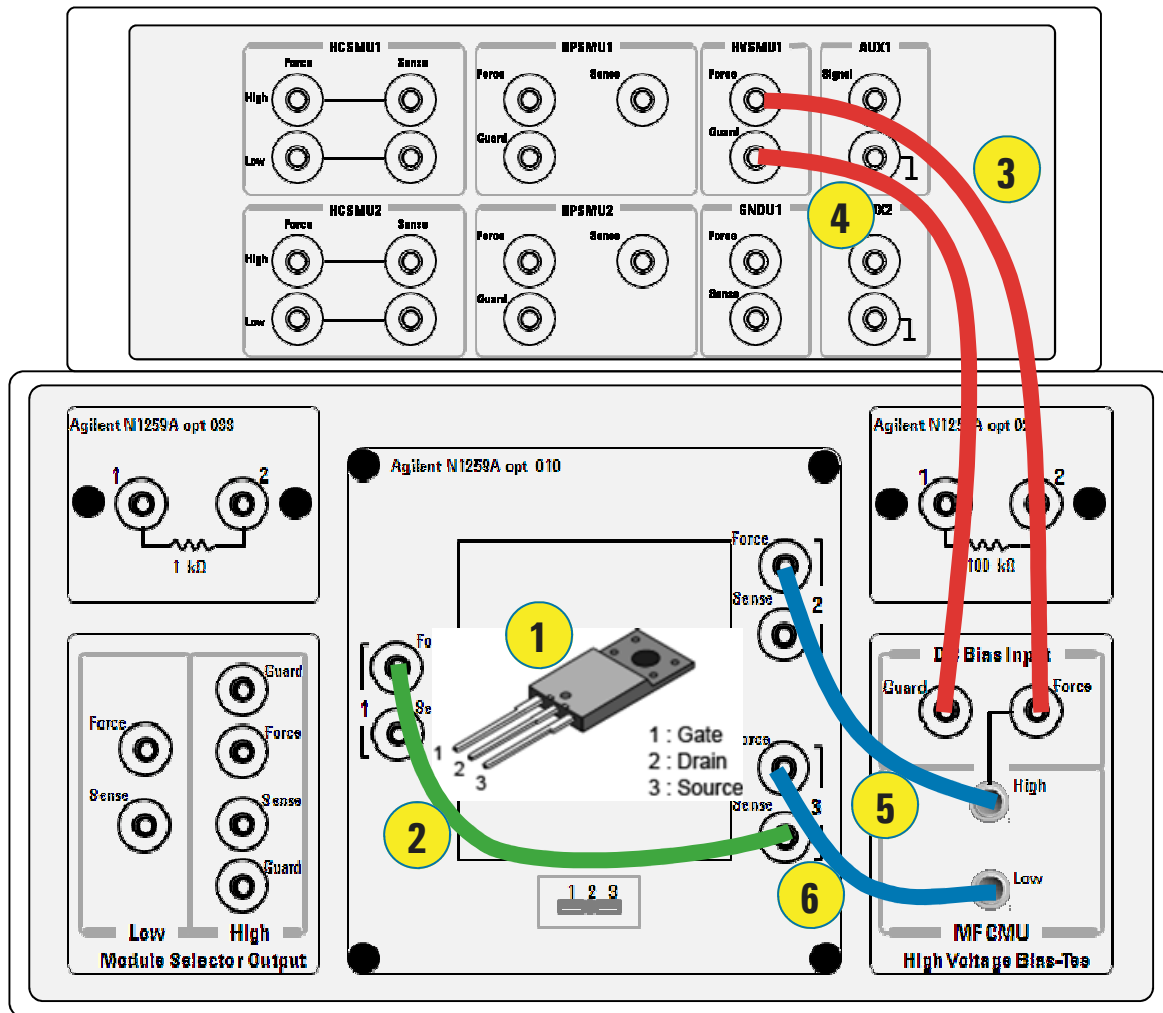

Figure 3-74. Connection for Coss capacitance measurement.
Open the N1259A test fixture cover, and connect the test leads, SHV cable and SHV-Banana Adaptor shown in figure 3-65 by following the step numbers shown in figure 3-74. The numbers of the procedure steps correspond to the numbers on the drawing for connecting the test leads and SHV cables.
Step 1. Insert the power MOS-FET (example: 2SK3745LS) into the socket on the N1259A. Make sure the device pin name matches the socket numbers shown in figure 3-74.